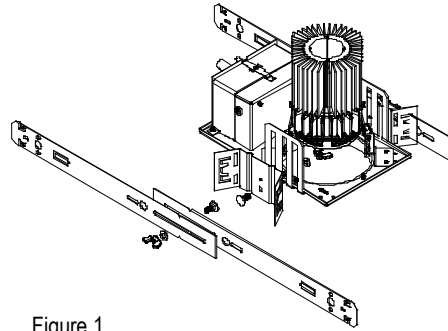

Figure 1
2. Place (2) short hanger bars together so that the formed tabs slip into the slots to form one long rigid hanger bar. Aligning the "V" cutouts in the hanger bar will set the spacing for a 24" ceiling. (See Figure 1.)